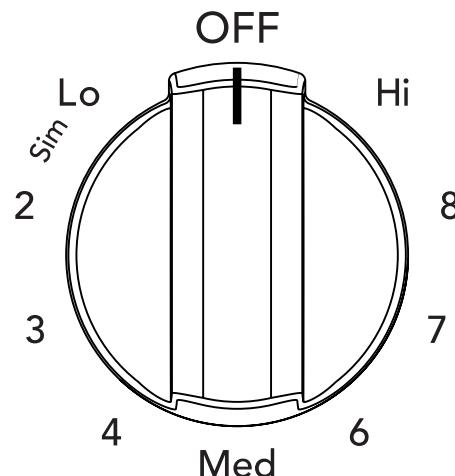

Figure 6: Surface control knob
2. Push in and turn the surface control knob in either direction (Figure 6) to the desired setting (refer to the "Suggested radiant surface element settings" in Table 1).
Start most cooking operations on a higher setting and then turn to a lower setting to finish cooking. The surface control knobs do not have to be set exactly on a particular spot. Use the graphics provided as a guide and adjust the control knob as needed (see Figure 6).